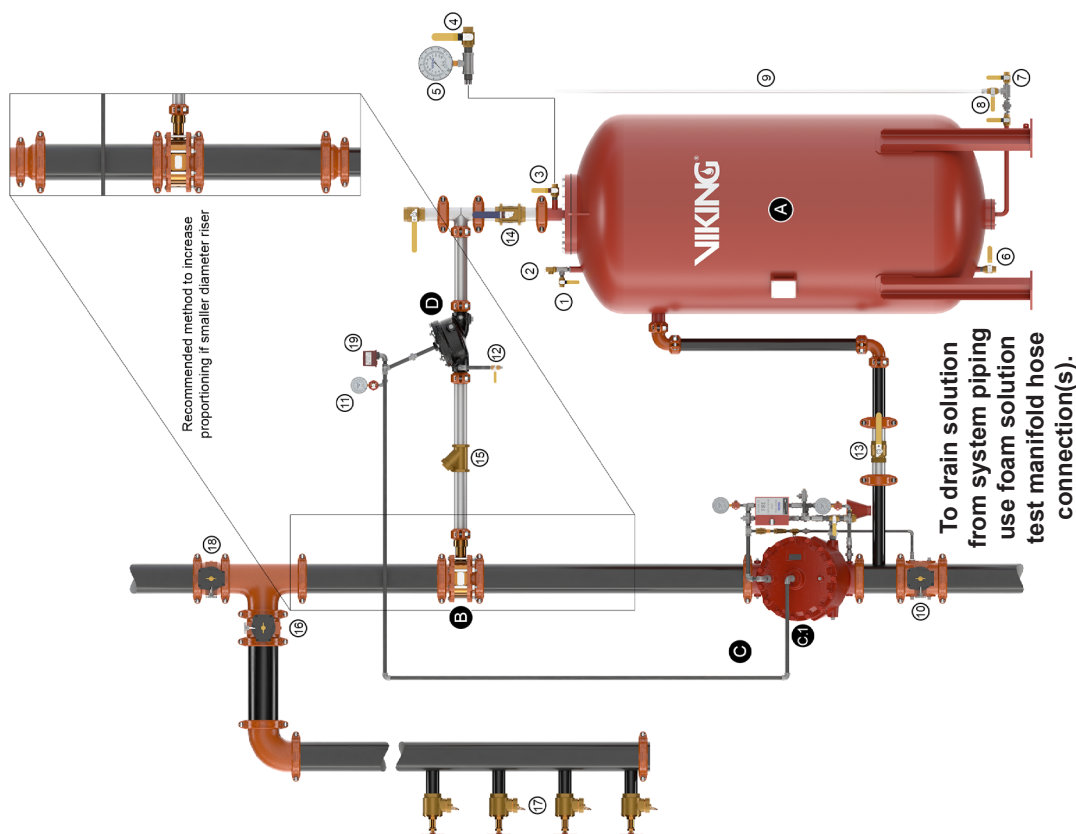

Figure 1
- A. Provide a minimum of 5 pipe diameters of straight pipe on the inlet and outlet of the ratio controller (B) to minimize turbulence inside the wide range proportioner.
- C. The CCV (D) and swing check valve (15) must be connected adjacent to the wide range proportioner using pipe nipples as short as possible.
- D. Figure 1 is a general schematic of the required piping arrangement. Refer to the appropriate technical data page for specific information regarding the valve, tank, and related trim and devices.
- F. The CCV (D) does not require any trim, except for a ½" priming line and water pressure gauge and 3-way valve (11) from the main deluge valve (C) to the priming chamber of valve (D). Plug all the remaining valve trim outlets. Connect the CCV (D) priming line to deluge valve (C) as shown on Figure 1. Refer to the Valves section of the website to find the correct trim kit part number for the corresponding size of CCV (D) required.